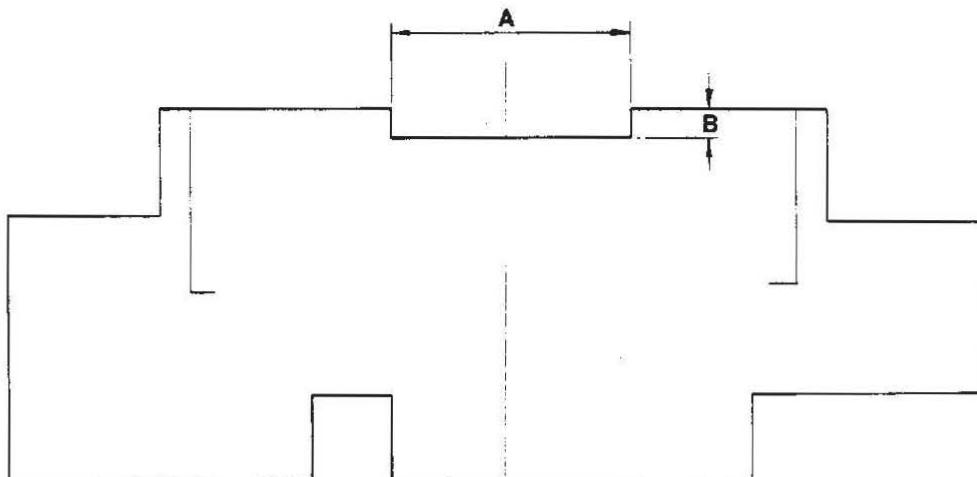

FIG 3
10. Cut a section from the fuel tank trim cover to clear the vent assemblies (Fig 3).